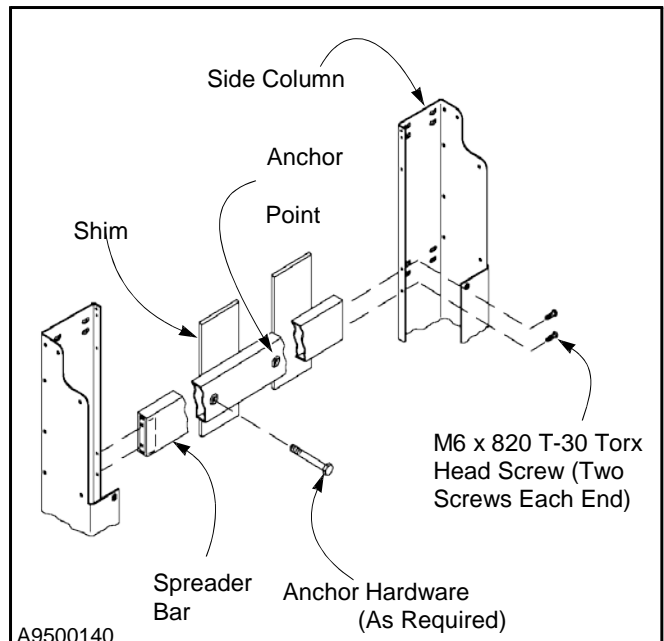

Figure 18
- With the flat side of the spreader bar facing away from the wall, attach the ends of the spreader to the side columns. Use two M6 x 820 T-30 Torx head screws at each end. The screws are located in the small parts carton. (See Figure 18.)